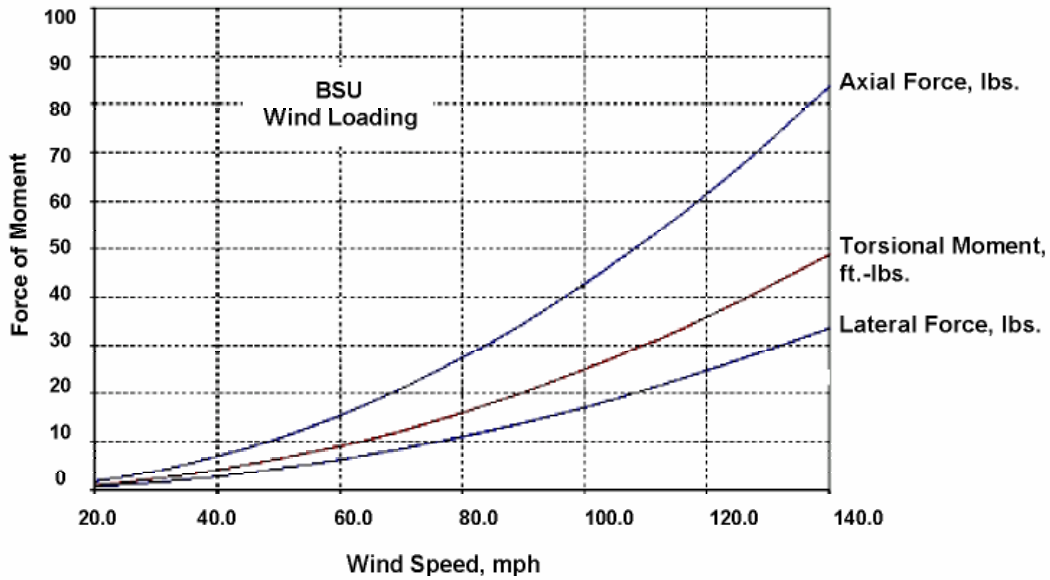
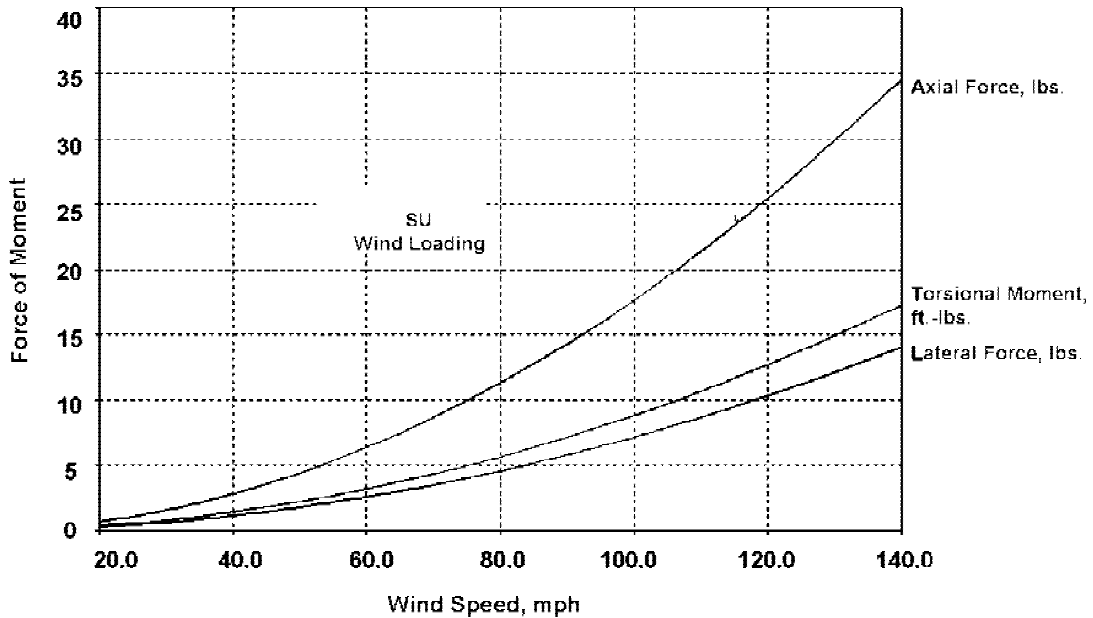

Figure 1. BSU Wind Loading Analysis
Figure 2. SU Wind Loading Analysis
The wind loading effect of the BSU and SU on their respective mounting masts is provided in Figure 1 (BSU) and Figure 2 (SU). The units of force in pounds can be converted to metric units by multiplying by